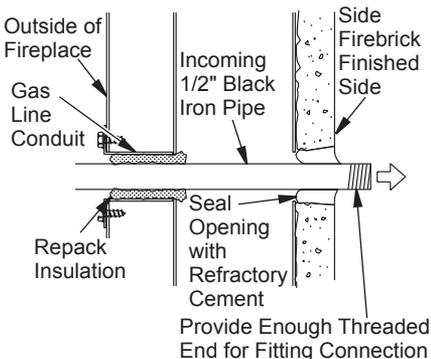

Figure 20 - Gas Line Installation
3. Run a 1/2" black iron gas line into the fireplace through the rear at gas line conduit sleeve (if using a raised platform, add height). Provide sufficient gas line into fireplace chamber for fitting connection (see Figure 20, page 12). *Note: Secure incoming gas line to wood framing to provide rigidity for threaded end.*